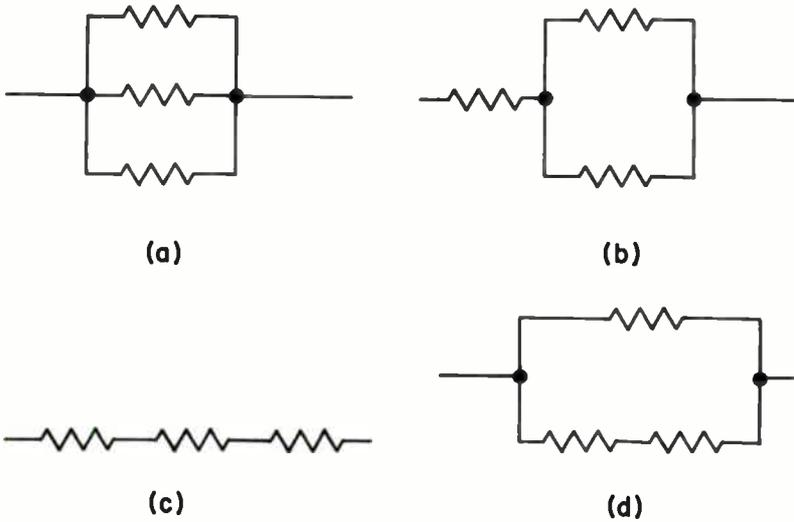

Fig. 18
1. In which network of Fig. 18 is the total resistance equal to $1\frac{1}{2}$ times the resistance of one resistor? (Hint: Assume each resistance to be 1Ω —or some other convenient value—and work out total resistance for each network.)
(1) (a) (2) (b) (3) (c) (4) (d)
2. In which network of Fig. 18 is the total resistance equal to two-thirds the resistance of one resistor? (Each resistance has the same value.) Select your answer from among the choices given for Question 1.
3. In which network of Fig. 18 is the total resistance equal to three times the resistance of one resistor? Select your answer from among the choices given for Question 1.
4. In which network in Fig. 18 is the total resistance equal to one-third the resistance of one resistor? Select your answer from among the choices given for Question 1.